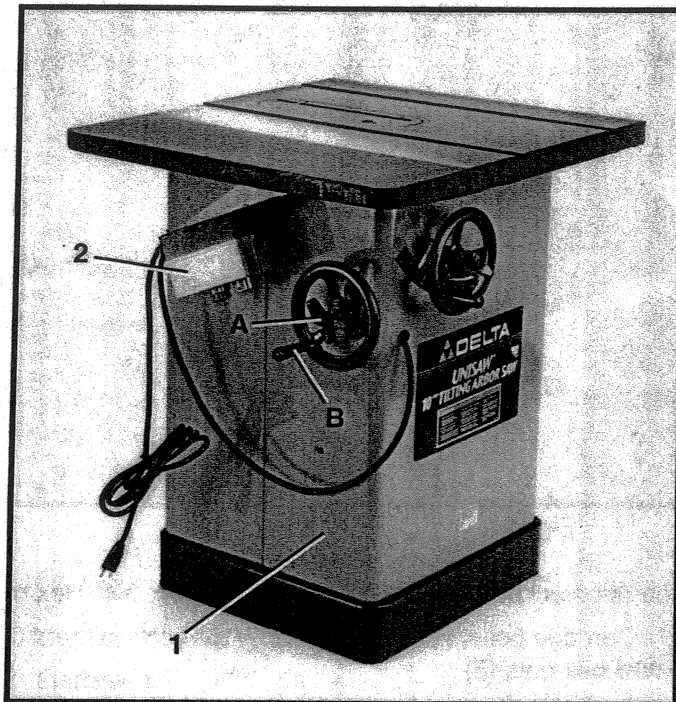
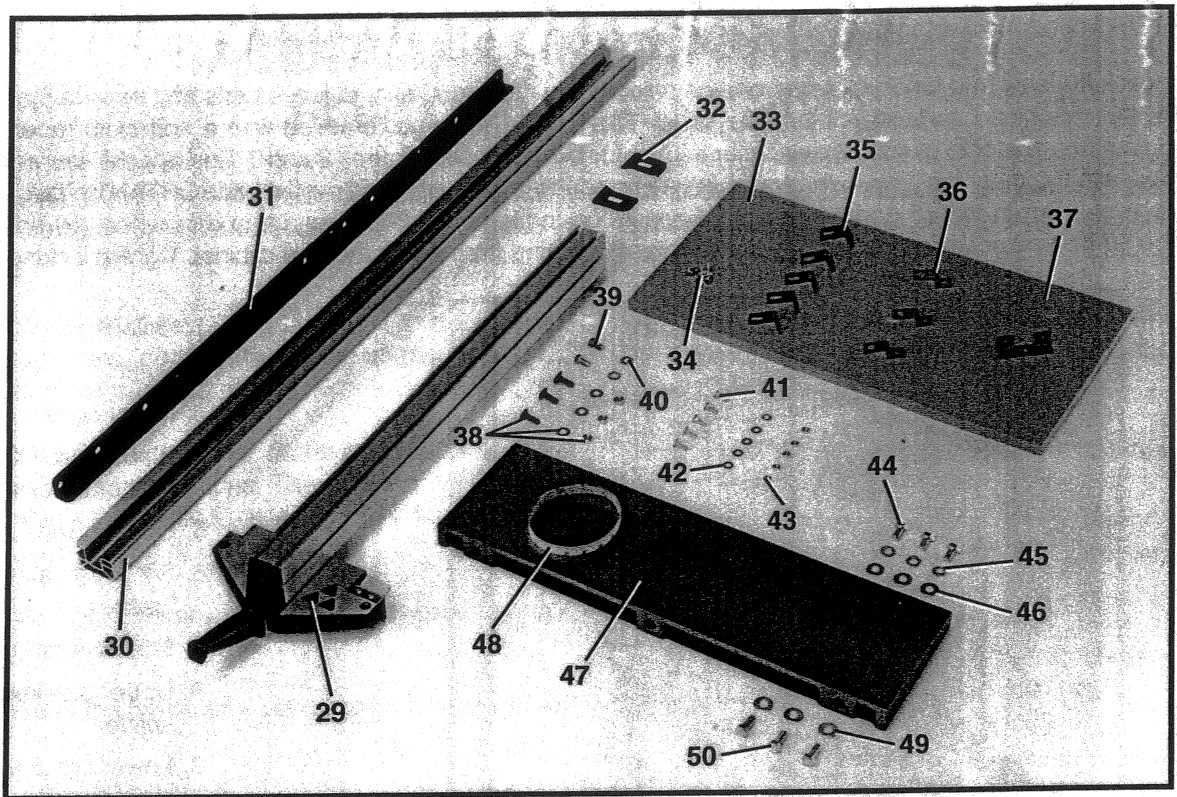

Fig. 2
Fig. 4
Carefully unpack the saw and fence system from the shipping containers. Clean all loose parts and remove the protective coating from the machined surfaces of the saw table. This coating may be removed with a soft cloth moistened with kerosene (do not use acetone, gasoline, or lacquer thinner for this purpose). Figures 2 and 3, illustrate the saw and all loose items supplied with the machine. Fig. 4, illustrates the items supplied with the fence system. **IMPORTANT:** The saw is shipped with the saw arbor in the 45 degree position. Loosen locking knob (A) Fig. 2, and turn handwheel (B) until the saw arbor is in the 90 degree position and remove the styrofoam packing from inside the saw cabinet. Tighten locking knob (A).